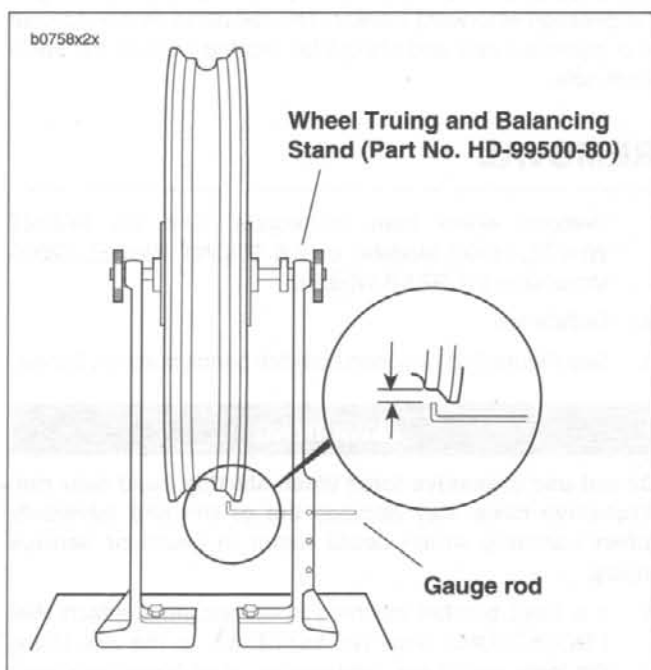

Figure 2-19. Checking Cast Rim Radial Runout
1. See Figure 2-19. Install truing arbor in wheel hub and place wheel in WHEEL TRUING AND BALANCING STAND (Part No. HD-99500-80).